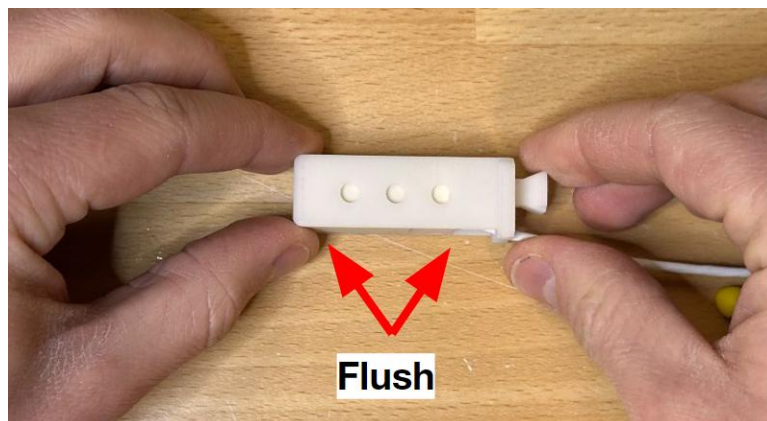

FIGURE 15 - INSTALLATION VERIFICATION
2. Gently press OPM into sleeve until it is seated fully flush with the side of the sleeve (Figure 15)